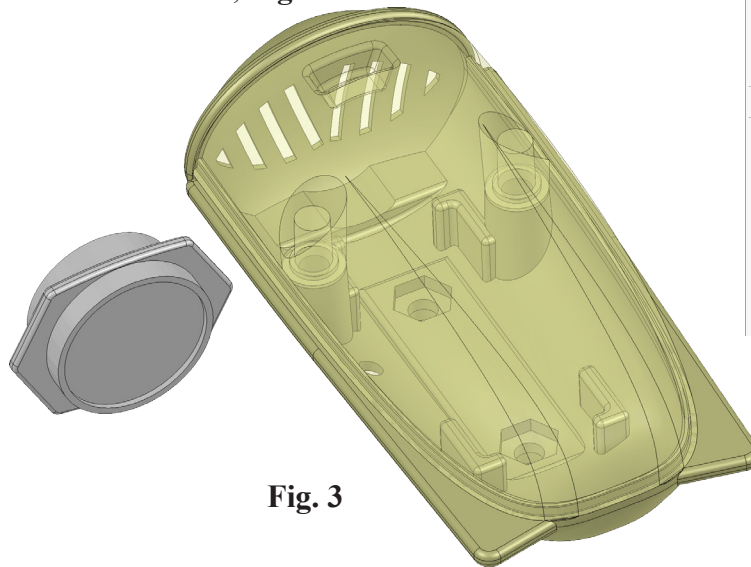

Fig. 3
Step 3. Position the Speaker as shown in, **Fig. 3**.